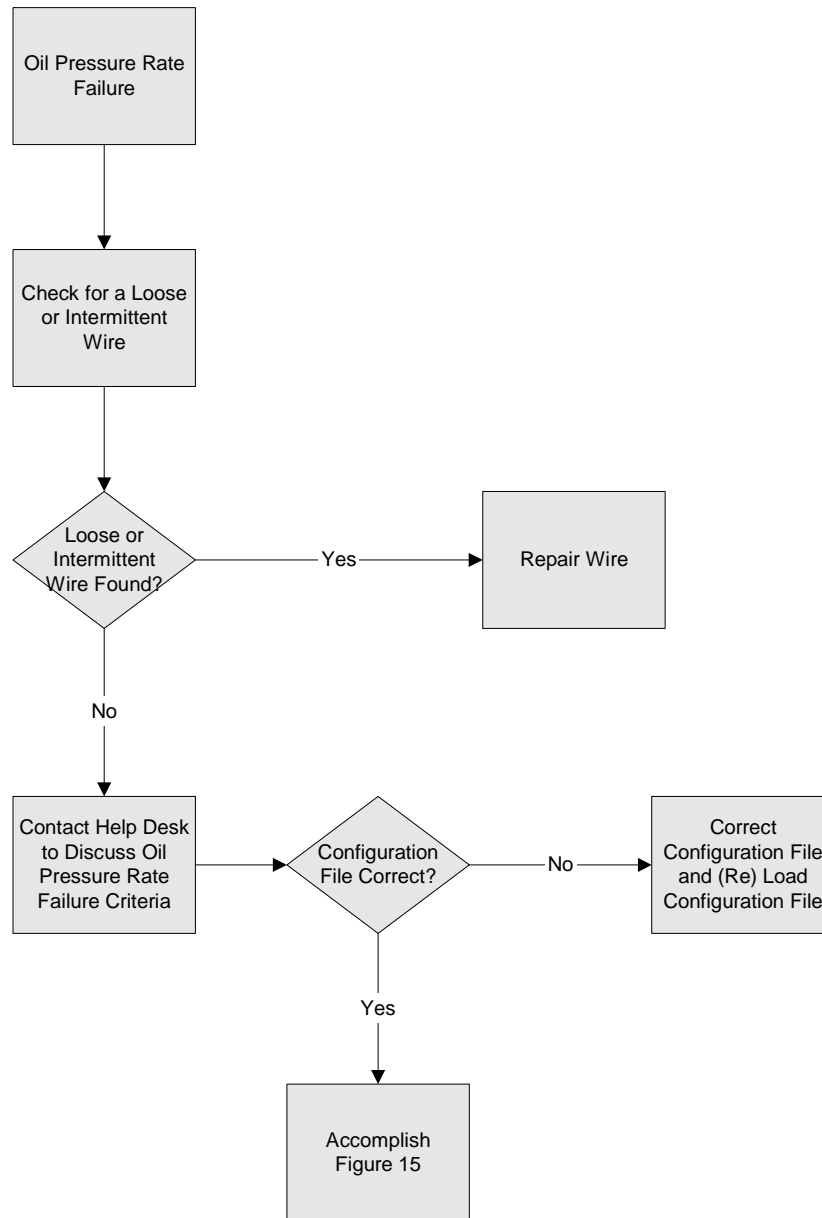

Figure 48: Oil Pressure Rate Failure Troubleshooting
- e. Transducer Rate Failure – Refer to Figure 48